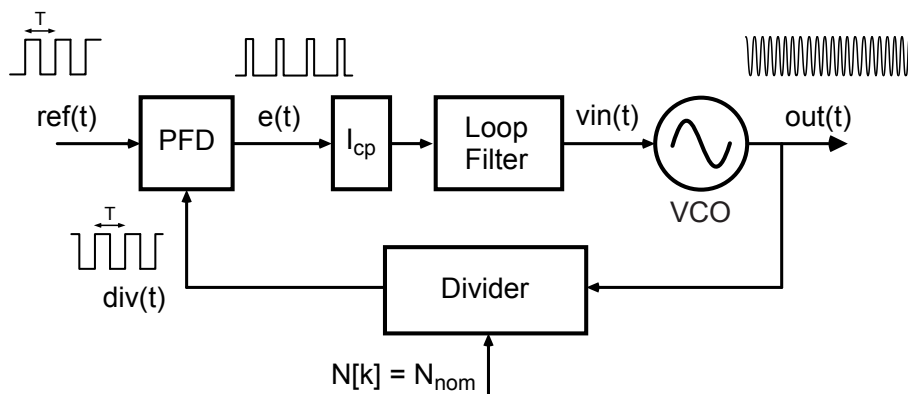

Figure 2: An integer-N frequency synthesizer.
2. The following problem focuses on the design of an integer-N frequency synthesizer as depicted in Figure 2. Assume that a tristate phase detector is used, $K_v = 20$ MHz/V, the desired nominal output frequency is 200 MHz, the desired frequency resolution is 2 MHz, and that the desired phase noise profile should closely match that in Problem 1. Also, assume that the loop filter will be designed such that the PLL will be Type I, second order, and have a bandwidth of 100 kHz with Butterworth shape.
- (a) Given the assumptions stated above, draw a transfer function level block diagram of the synthesizer shown in Figure 2.